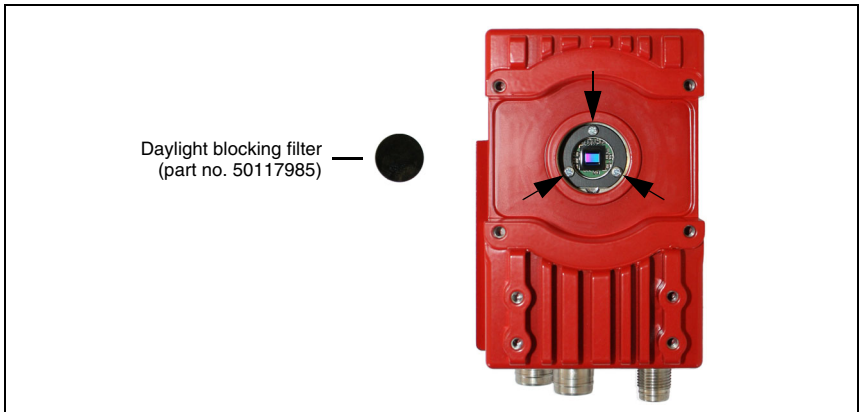

Figure 4.10: Filter replacement for C-mount devices
- ↪ Loosen the 3 retaining screws on the filter retaining ring (arrow in figure 4.10) and carefully remove the retaining ring.